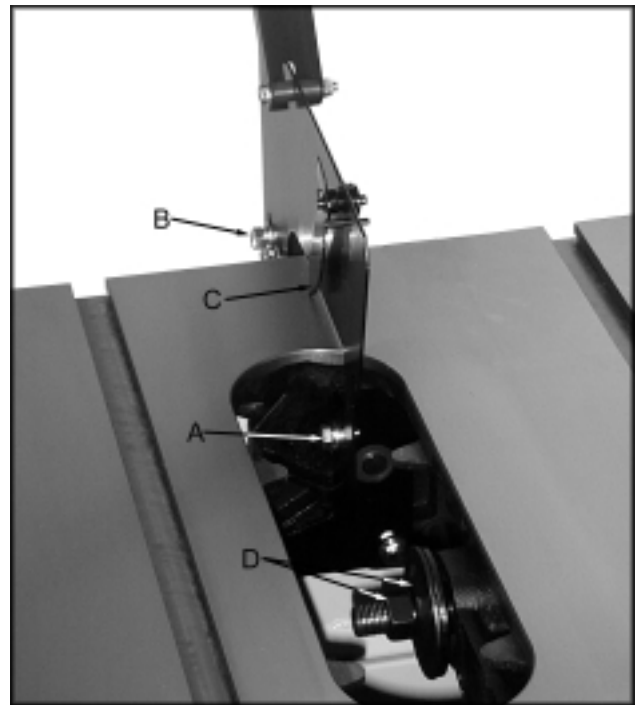

Fig. 7
5. Insert front tab of blade guard splitter through insert opening in table and onto hex cap bolt (A, Fig.7). Hand tighten only at this time.
6. Insert rear tab of blade guard assembly behind two hex cap bolts, two flat washers and two lock washers (B, Fig. 7) in the upper blade guard bracket. Hand tighten only at this time.
Note: Make sure anti-kick back plates (C, Fig. 7) are pointing to the rear of the table.
2. Remove the arbor nut and flange (D, Fig. 7). Arbor nut has left hand thread; turn clockwise to remove.